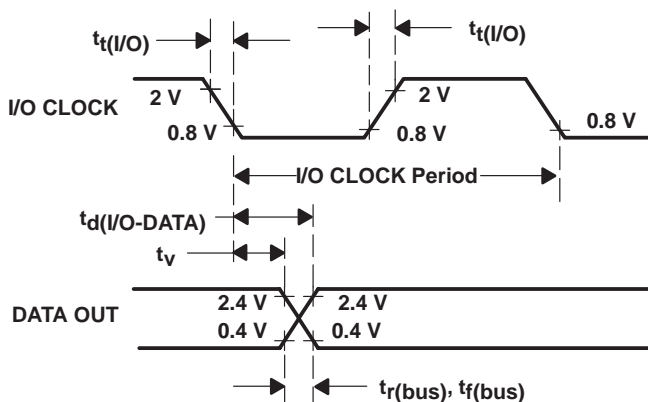

Figure 7. I/O CLOCK and DATA OUT Voltage Waveforms
| Transition time, I/O CLOCK, $t_t(I/O)$ (see Note 4 and Figure 7) | | 1 | | | μs |
| t_v | Valid time, DATA OUT remains valid after I/O CLOCK↓ | See Figure 7 | 10 | | | ns |
| $t_d(I/O\text{-}DATA)$ | Delay time, I/O CLOCK↓ to DATA OUT valid | See Figure 7 | | | 250 | ns |
| $t_r(\text{bus})$ | Rise time, data bus | See Figure 7 | | 15 | 50 | ns |
| $t_f(\text{bus})$ | Fall time, data bus | See Figure 7 | | 15 | 50 | ns |
10. I/O CLOCK period = $1 / (\text{I/O CLOCK frequency})$ (see Figure 7).